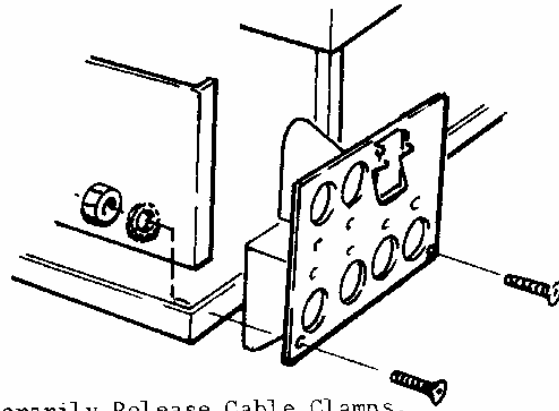

Fig 13 Temporarily Release Cable Clamps.
11. GENERAL NOTES ON FITTING CABLES INTO CLAMPS Fig 13, 14 & 15.
Release the clamp carrier plate from the unit by removing the two fixing screws (see Fig 13. Note nuts and washers).